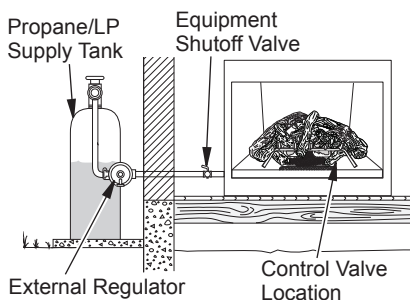

Figure 10 - Checking Gas Joints for Propane/LP Gas
3. Check all joints from gas meter to equipment shutoff valve for natural gas or propane/LP supply to equipment shutoff valve for propane/LP (see Figure 10 or 11). Apply a noncorrosive leak detection fluid to all joints. Bubbles forming show a leak.
4. Check all joints from equipment shutoff valve to control valve (see Figure 10 or 11). Apply a noncorrosive leak detection fluid to all joints. Bubbles forming show a leak.